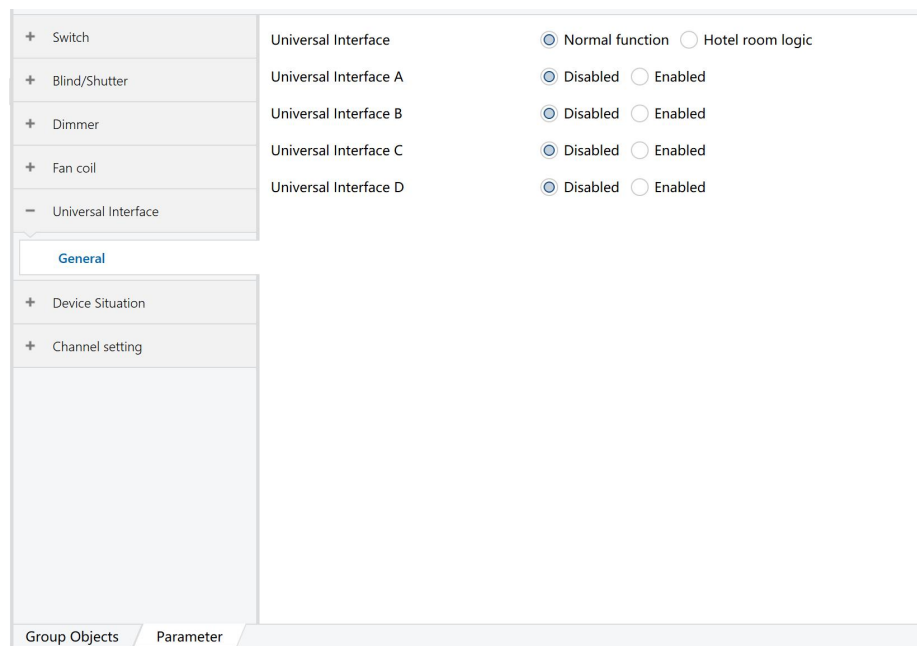

Figure 6.5.1
1) Click "Universal Interface" as shown in Figure 6.5.1, and Universal Interface A-D is set to Enabled, and four dry contact interfaces will be enabled.